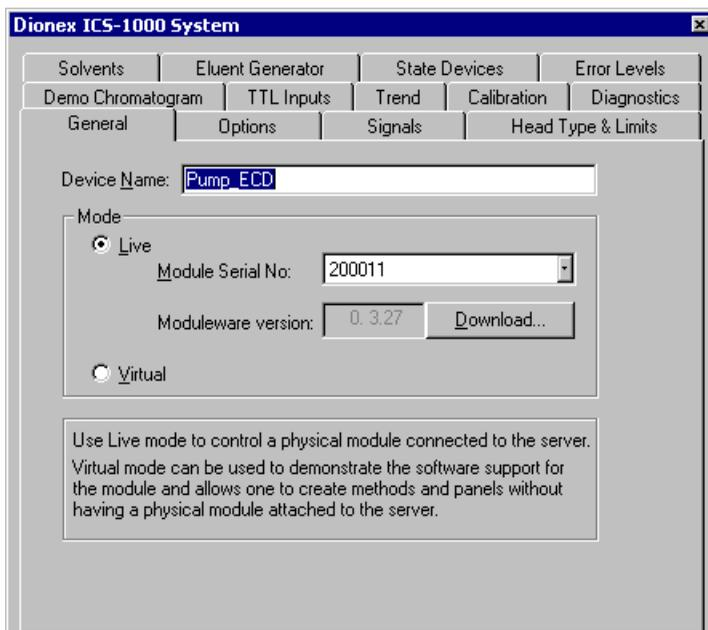

Figure B-13. ICS-1000 System Properties
- The ICS-1000 System dialog box opens (see Figure B-13). The **General** page shows the Device Name (**Pump\_ECD**), the Mode (**Live**), and the Module Serial No.